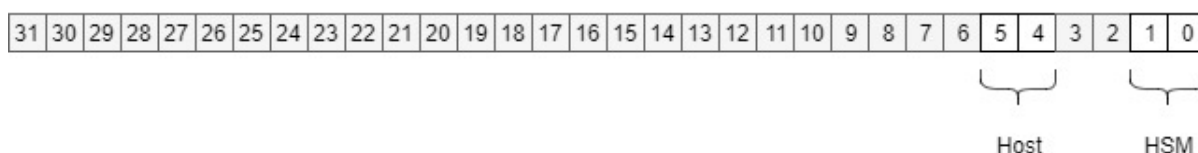

Figure 4.5. DBGCTRL bridge register
- ▶ The EB zentur HSM Firmware controls the debug access for the host and the HSM subsystem via a system control specific debug control Bridge register DBGCTRL (Figure 4.5, “DBGCTRL bridge register”). Access to this register via the host would end up in a bus error. To avoid a SPB bus conflict triggered by HSM debugging, HSM debugging can be disabled by setting the compiler switch *HSMDBGDIS*. You can disable HSM debug mode by compiling the software with *HSMDEBUG* option, by doing so, the HSM debug mode is disabled whenever a command is received/started.